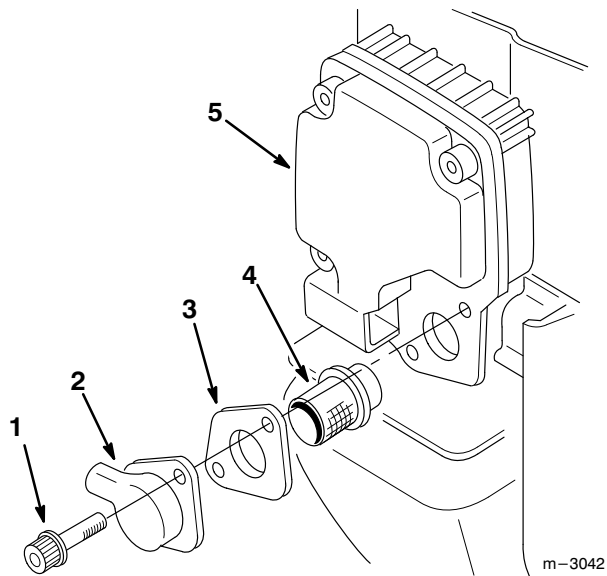

Figure 35
3. Remove the two socket head screws holding the spark arrester assembly to the muffler (Fig. 35).
5. Reinstall the spark arrester, gasket and tail onto the muffler, then reinstall and tighten the two socket head screws (Fig. 35).